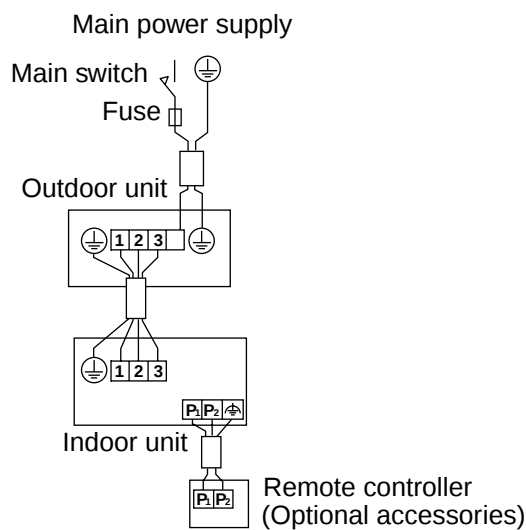

Fig. 25
- **Pair type** : 1 remote controller controls 1 indoor unit. (standard system) **(Refer to Fig. 25)**